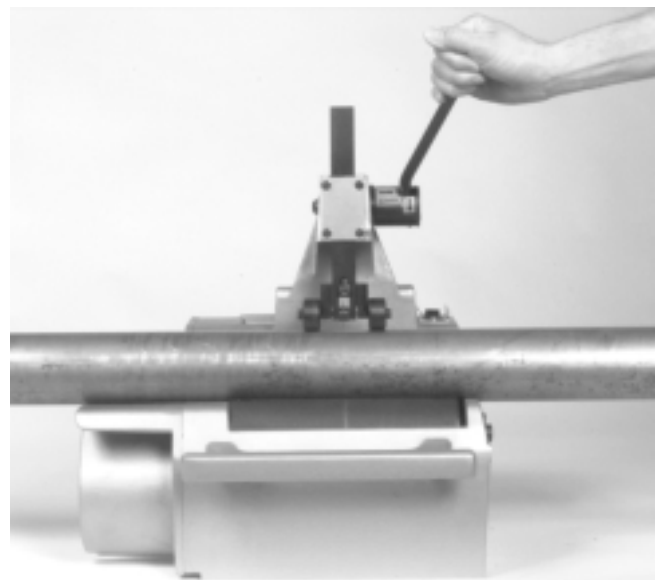

Figure 3 – Proper Operating Position and Machine Set-Up
2. Mount machine on the stand using three (3) $\frac{3}{8}$ " - 16 x $1\frac{3}{4}$ " bolts and washers (*Figure 3*).
2. Raise cutter handle of the machine to its maximum height to provide clearance for the tubing (*Figure 3*).
3. Place the tubing on the rollers so that the cutting mark is located under the cutter wheel. If cutting a length of tubing that extends more than four (4) feet beyond the machine, use pipe supports under the workpiece. Two (2) supports should be used when the tubing exceeds eight (8) feet in length.
4. Assume the correct operating position in order to maintain proper balance and control of the unit (*Figure 3*).